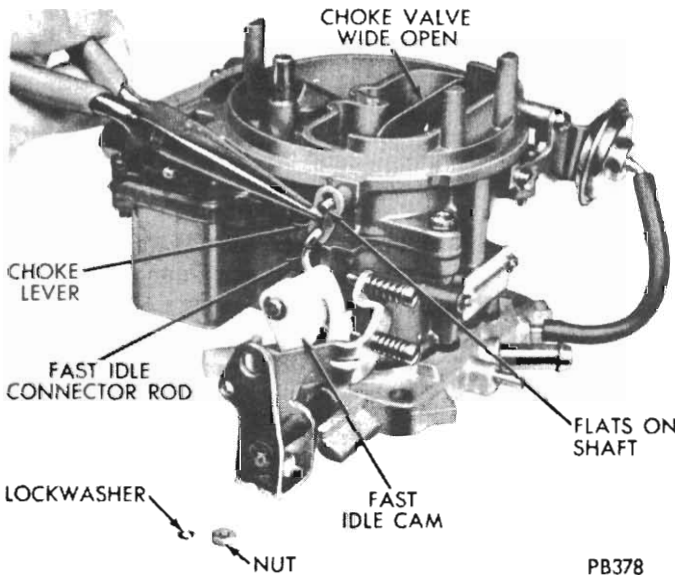
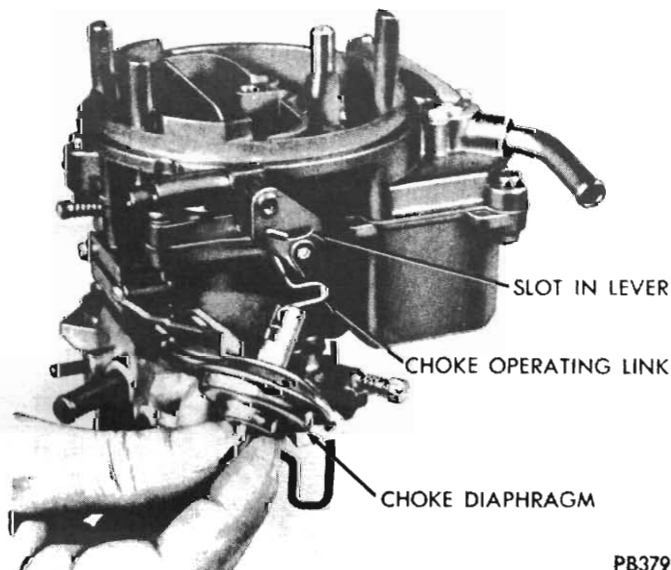

Fig. 3 - Removing or installing fast idle connector rod
Fig. 4 - Removing or installing choke diaphragm
(3) Remove nut and washer that attaches choke lever to choke shaft. Disengage fast idle connector rod from lever and fast idle cam (Fig. 3).
(4) Remove choke vacuum diaphragm hose from throttle body tube fitting. Remove screws that attach choke diaphragm and mounting bracket to air horn.
(5) Remove choke diaphragm and, at the same time, disengage choke operating link from slot in choke operating lever (Fig. 4). Place choke unit to one side to be cleaned as a special item. A liquid cleaner may damage diaphragm material.